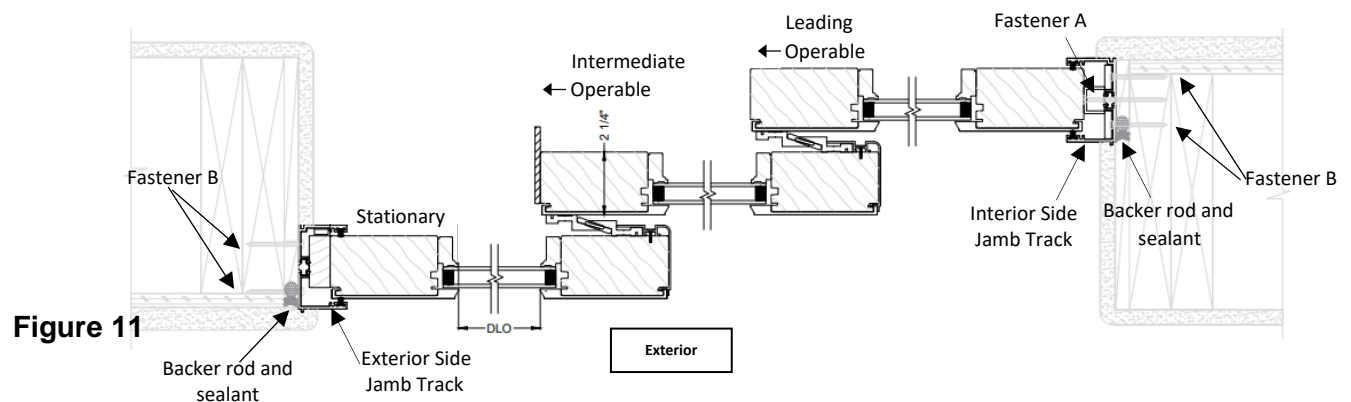
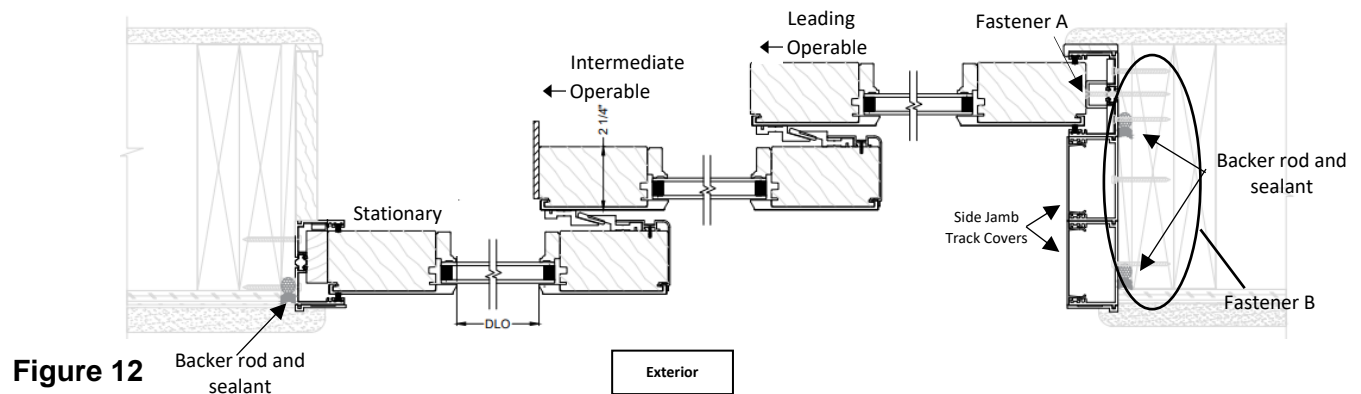

Figure 11
Figure 12
NOTE: The Multi-Slide Plus system may be ordered with thermally broken sill and side track (standard) only (see Figure 11) or with the side jamb option (head track covers, additional side jamb tracks with covers, interior wood side jamb piece, exterior clad trim pieces and interior wood trim pieces). (See Figure 12). The following steps apply to both options.
- 4.4 Once side jamb tracks are fastened into place, complete the install by inserting backer rod into the cavity between the track and rough opening and seal the joint with polyurethane (see Figure 11 for thermal break tracks; Figure 12 for side jamb option).
- 5.3 When installing the interior most panel, adjust the lock strike (which is applied to the side jamb track at the factory) to align with the panel hardware and secure it to the R.O. using #8 x 3" flat head SS fastener (A) (see Figure 11).